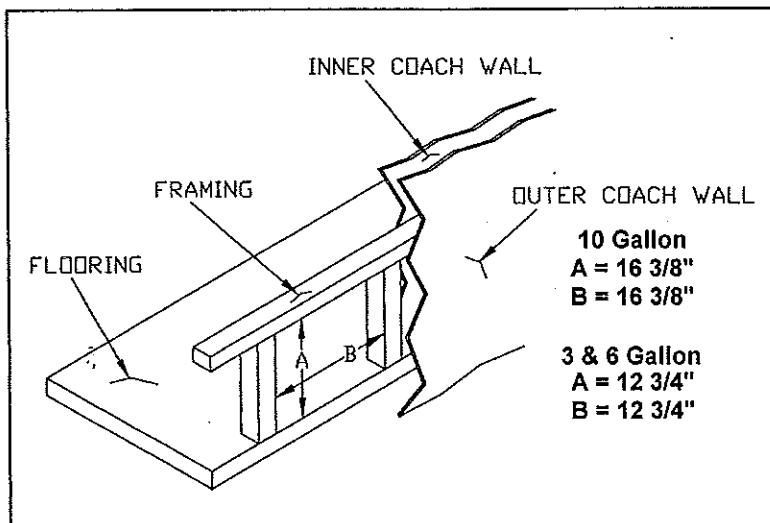
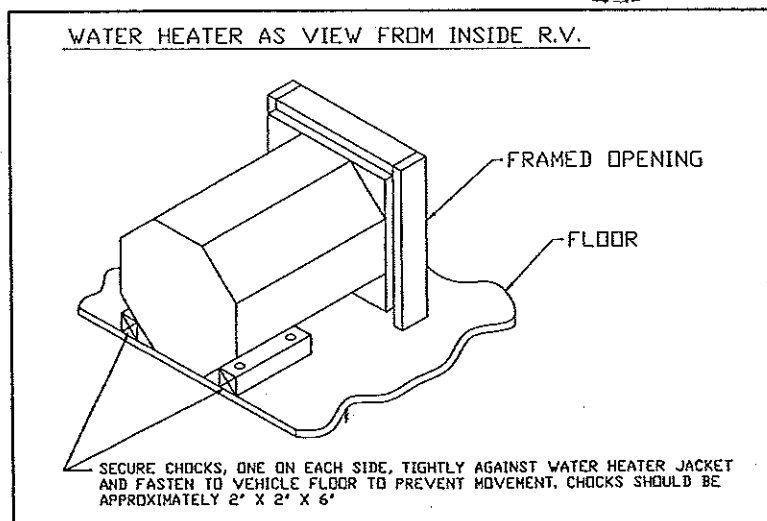

Figure 1
Figure 1A
Provide an opening flush with floor in outer wall of coach. Wall of coach should be framed as shown in Figure 1. Maintain inside dimensions listed below. Do not install on carpet unless the carpet is covered by a metal or wood shield covering the entire area underneath the water heater. If preferred, cut away the carpet from this area. Chocks must be in place to secure rear of unit (See Figure 1A).
**C.** Install chocks, one on each side of water heater, as illustrated in Figure 1A.
- H. Install chocks, one on each side of water heater, as illustrated in Figure 1A.